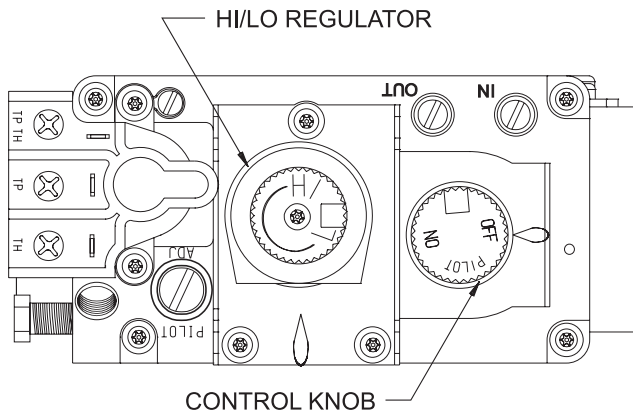

Figure 59
**NOTICE:** The gas control valve allows you to increase or decrease the height of the main burner flame. The control valve has a pressure regulator with a knob as shown in Figure 59. Rotate the knob clockwise to “HI” to increase the flame height and counterclockwise to “LO” to decrease the flame height.